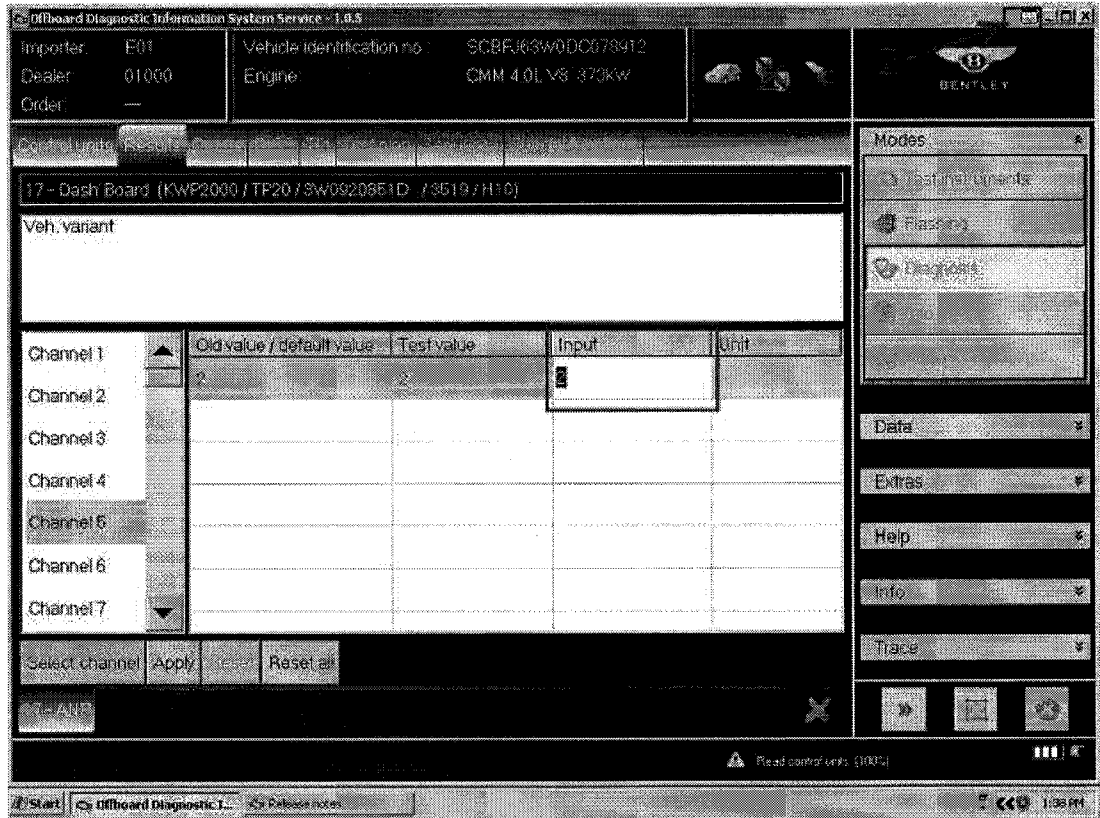

Figure 6
14. Select the Channel number to be changed and double touch the *Input* box to make cell active (see Figure 6)
15. Click key board icon (2) to display virtual key board